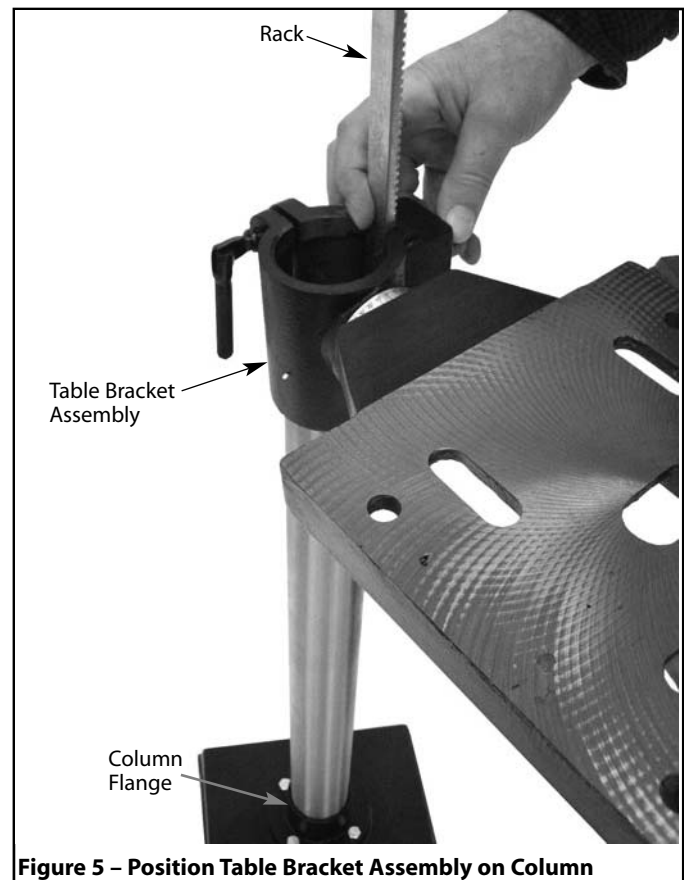

Figure 5 – Position Table Bracket Assembly on Column
Refer to Figures 5 and 6, page 4 and 5.
- Slide table bracket assembly with rack over column. Place bottom end of rack inside beveled edge of column flange. See Figure 5, page 4.